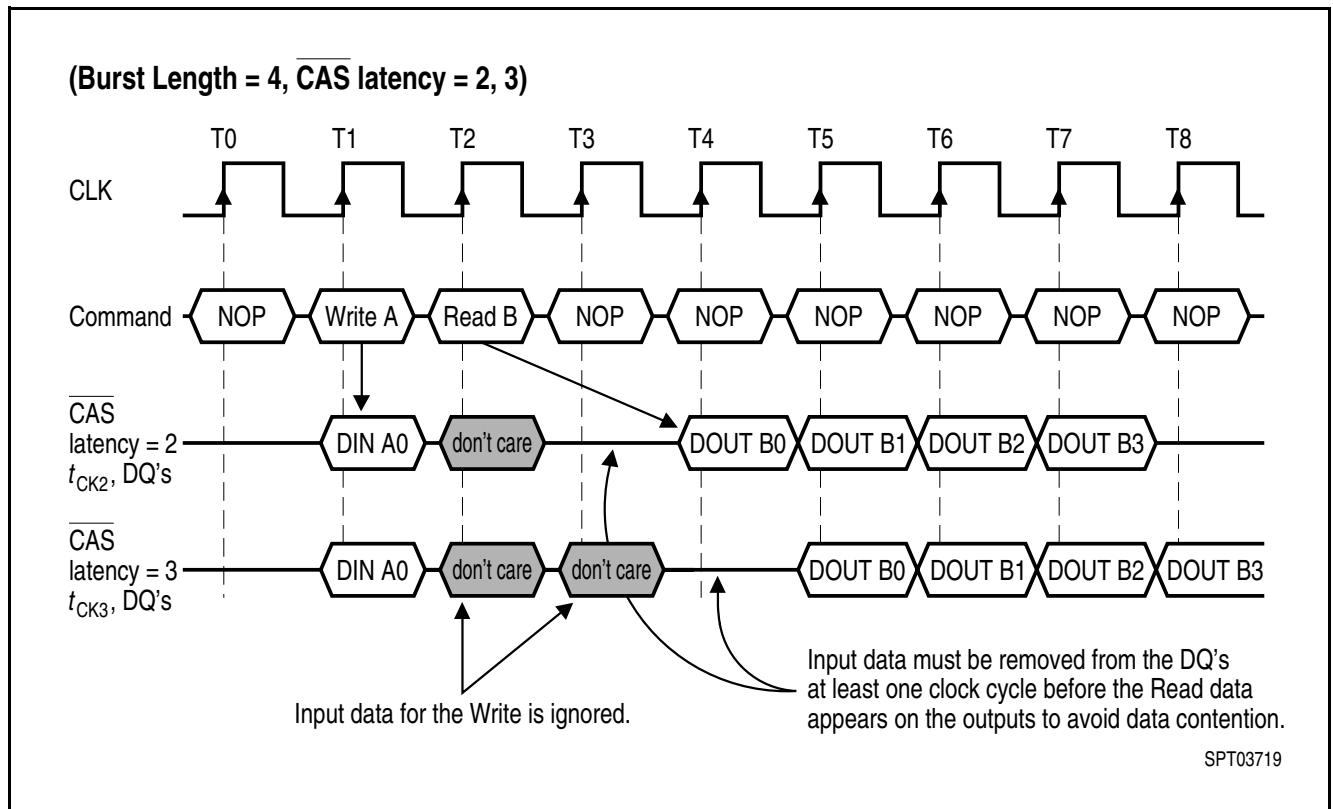

Figure 13 Write Interrupted by a Read
- **Figure 13** Write Interrupted by Read